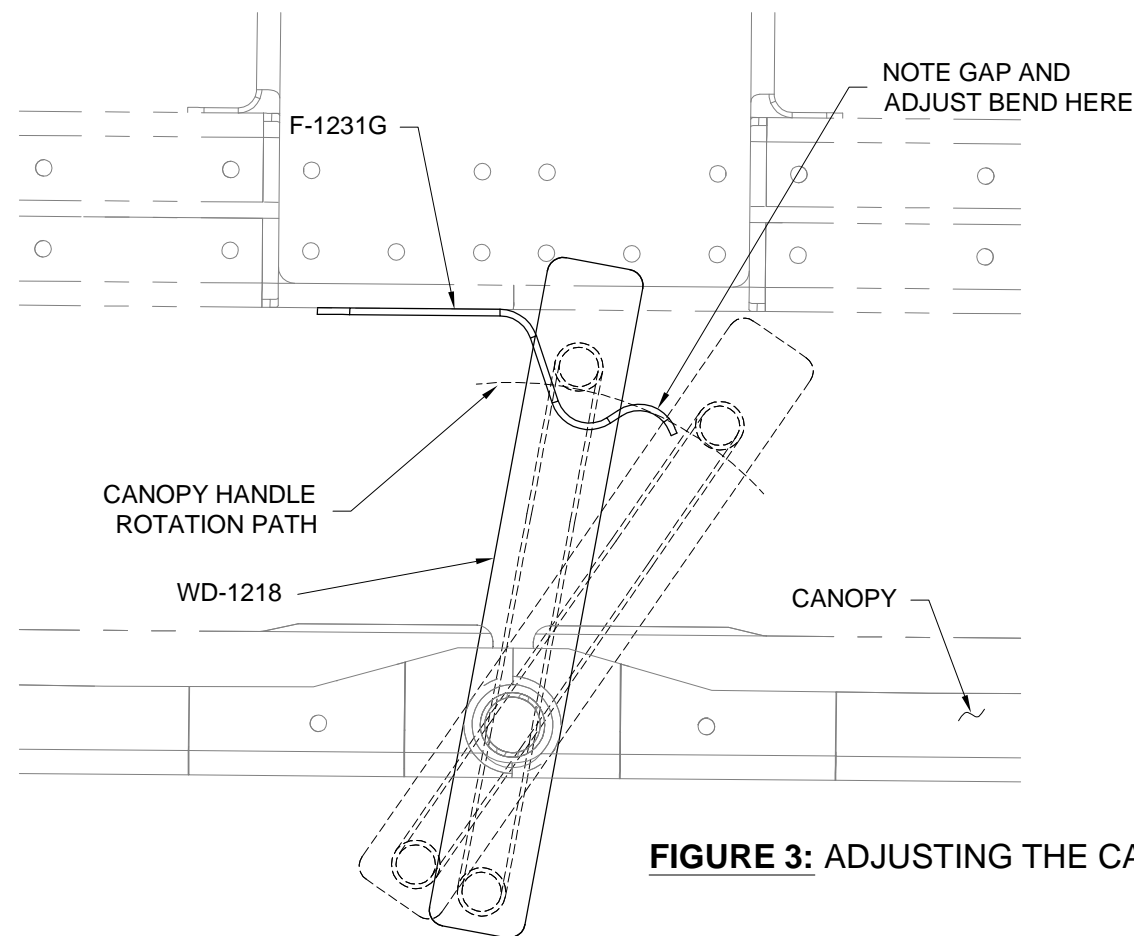

FIGURE 3: ADJUSTING THE CANOPY CATCH
Step 4: While seated in the airplane, lower the canopy and rotate the WD-1218 Canopy Handle so that the canopy handle slides into the F-1231G Canopy Catch. See Figure 3.